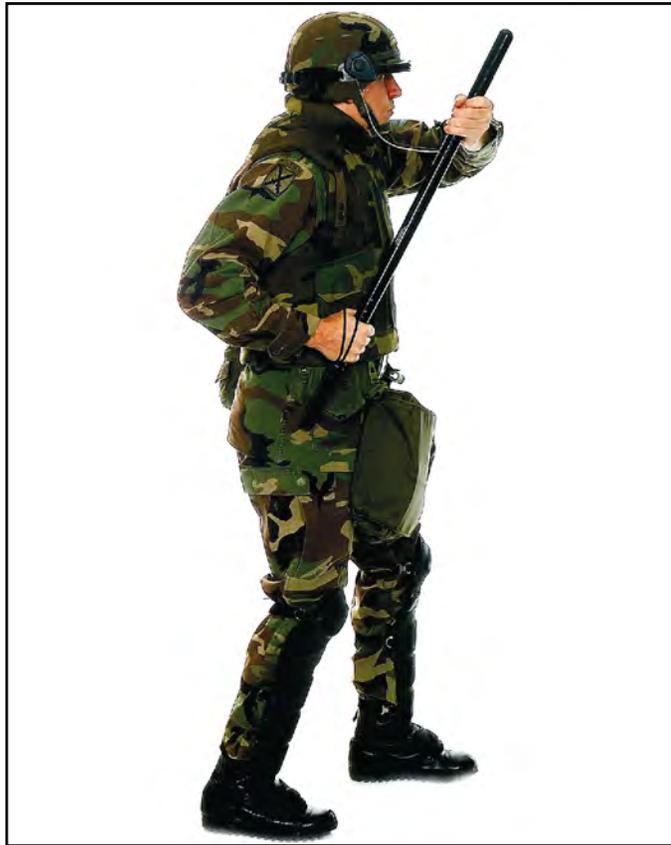

Figure 191-376-4121-7 On-guard position (side view)
- 5.** Ensure that a blow is not directed to one of the five fatal points. Refer to Figure 191-376-4121-8.